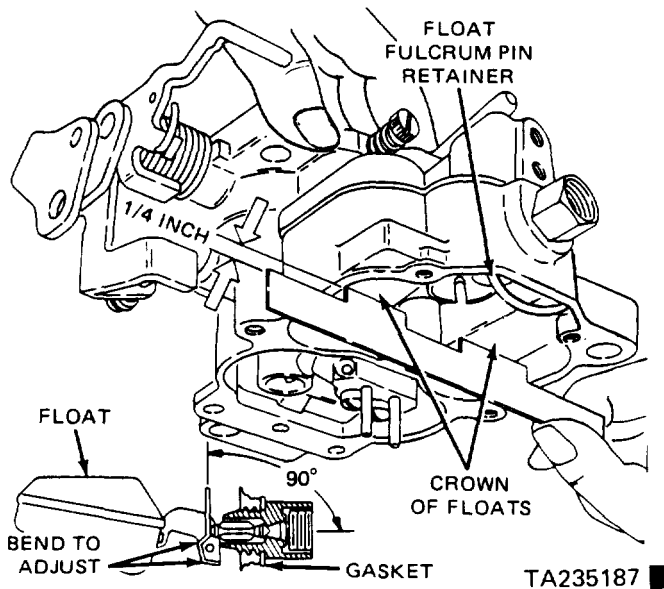

Figure 12-11. Checking the Float Setting.
(1) Install the floats with a fulcrum pin and pin the retainer in the main body.
(2) Install the needle, seat, and gasket in the body. Tighten them securely.
(3) Turn the main body over, catching the pump intake check ball, so that only the weight of the floats is forcing the needle against the seat. Hold your finger against the retainer to fully seat the fulcrum pin.
(4) Using a straightedge scale, check the float setting. The measurement from the top surface of the fuel bowl to the crown of each float at the center (figure 12-11) should be one-quarter inch.
(5) If an adjustment is necessary, hold the floats on the bottom of the bowl and bend the float lip toward or away from the needle. Recheck the setting again. Then repeat the lip bending operation as required.